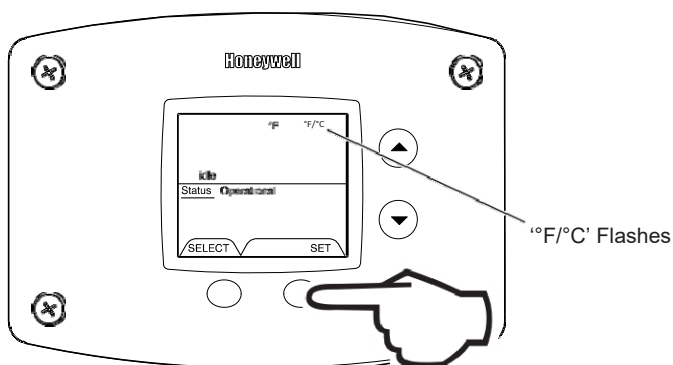

Fig. 66
2. Press 'Set' button to change temperature format. '°F/°C' symbol will flash in the water heater display (Fig. 66).